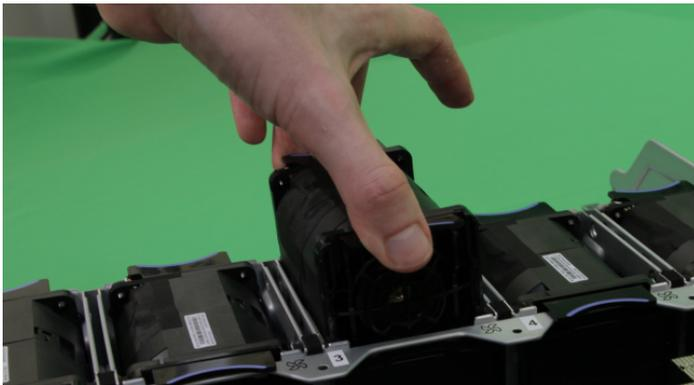

Figure 93. Removing the fan module
6. Hold the fan module between your finger and thumb at the blue touch points. Squeeze gently and lift the fan module out of the node canister, as Figure 93 on page 149 shows.